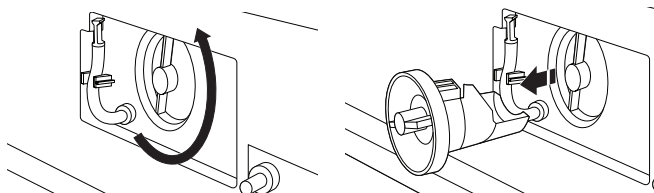

Figure 3
3. Lay a cotton cloth beneath the drain pump filter to absorb any water still in it. Then remove the drain pump filter by turning it counterclockwise. See Figure 3.